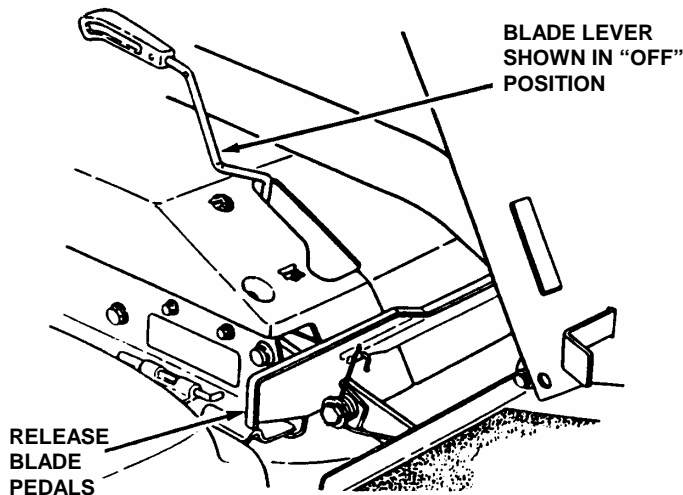
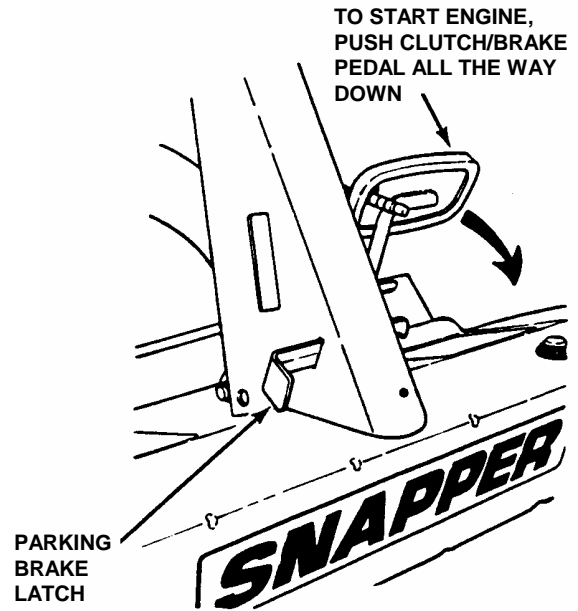
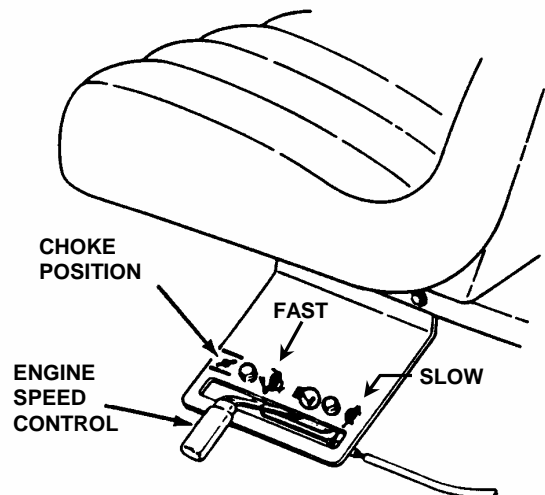
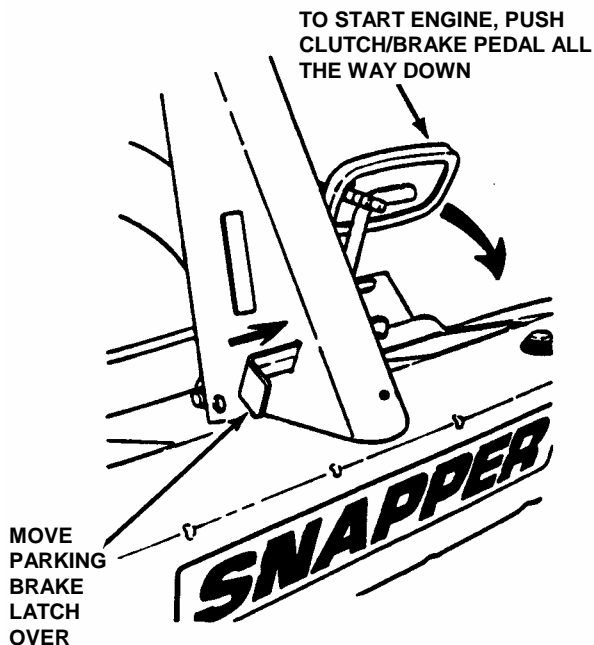

FIGURE 2.4
FIGURE 2.5
FIGURE 2.6
FIGURE 2.8
**IMPORTANT:** When the ignition key is turned to "START", the engine will turn over, but will not start unless the Clutch/Brake pedal is pressed all the way down, the Blade Lever is in the "Off" position (See Figure 2.5). The operator should be in the seat. Start engine as follows:
1. Move transmission shift lever to (N) Neutral position. **DO NOT** start engine with transmission shift lever in a drive position.
2. Make certain the Blade Lever is in the "Off" position. See Figure 2.4.
3. Press Clutch/Brake Pedal all the way down and hold while starting engine. See Figure 2.5.
5. Move engine speed control to the choke position to start a cold engine. See Figure 2.6.
**IMPORTANT:** When the ignition key is turned to "RUN", and the recoil handle is pulled, the engine will turn over, but will not start unless the Clutch/Brake Pedal is pressed all the way down with Parking Brake engaged (See Figure 2.8) and the Blade Lever is in the "Off" position (See Figure 2.4). Start engine as follows:
1. Move transmission shift lever to (N) Neutral position. DO NOT start engine with transmission shift lever in a drive position.
5. Move engine speed control to the choke position to start a cold engine. See Figure 2.6
3. Press Clutch/Brake Pedal all the way down, move Parking Brake Latch over and release the Clutch/Brake Pedal to set Parking Brake. See Figure 2.8.